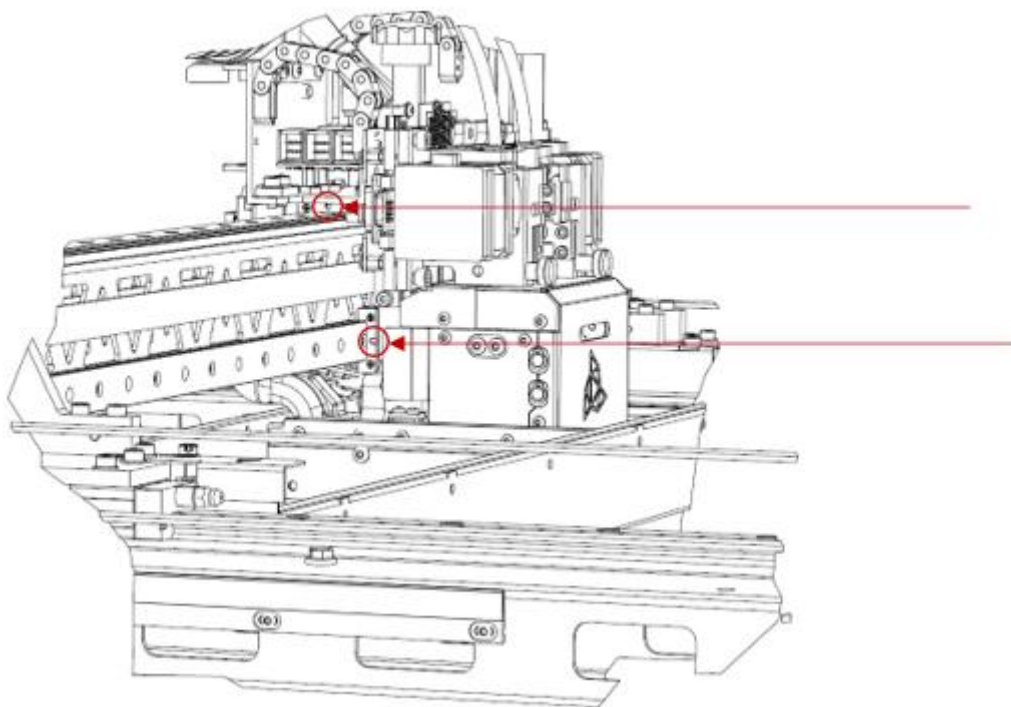

Fig. 81 Lubrication holes on the left side of the print module
9. Squeeze the dispenser for a few seconds to apply oil into the hole in the front carriage and the hole in the top carriage. The oil application points are marked red in Fig. 81.